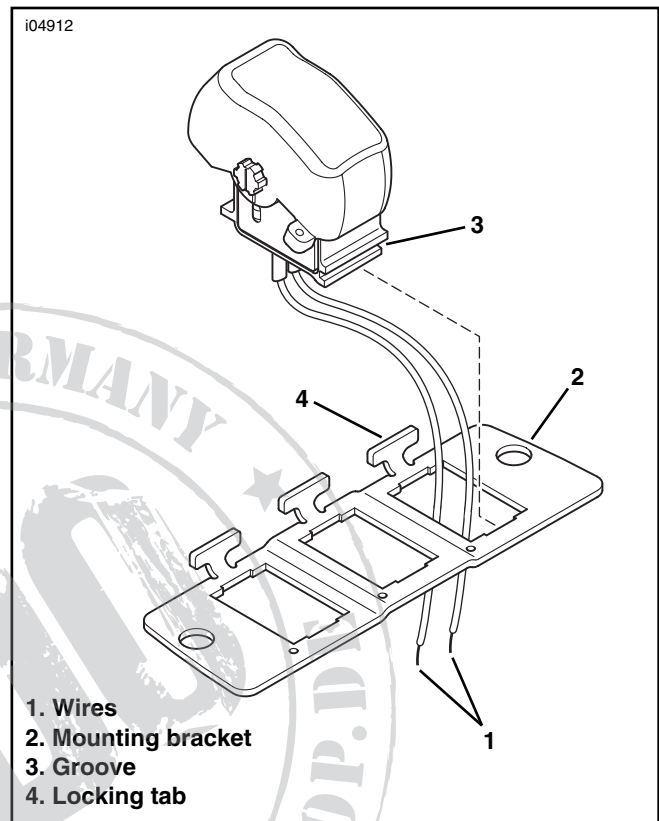

Figure 1. Install Rocker Switch in Mounting Bracket
6. See Figure 1. Route the switch wires (1) through the opening in the mounting bracket (2), and engage the groove (3) on the bottom of the switch with the edge of the opening opposite the locking tab (4). Seat the switch in the opening.